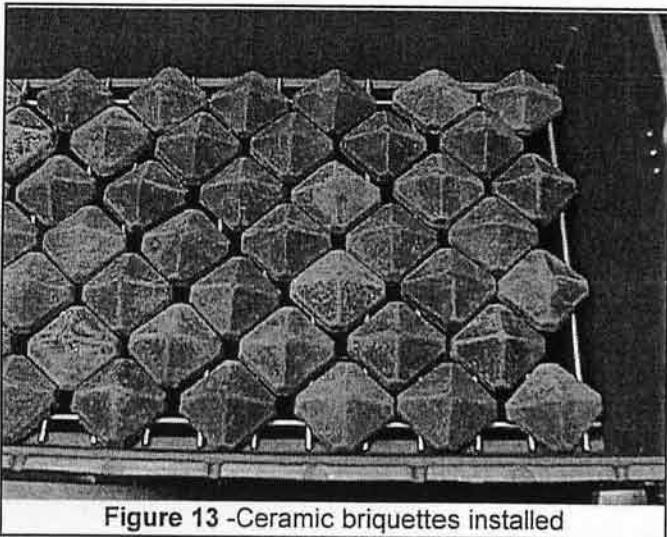

Figure 13 -Ceramic briquettes installed
- 2) Open bag of ceramic briquettes. Position briquettes over two wires as shown in (Figure 12). Complete as shown in (Figure 13)